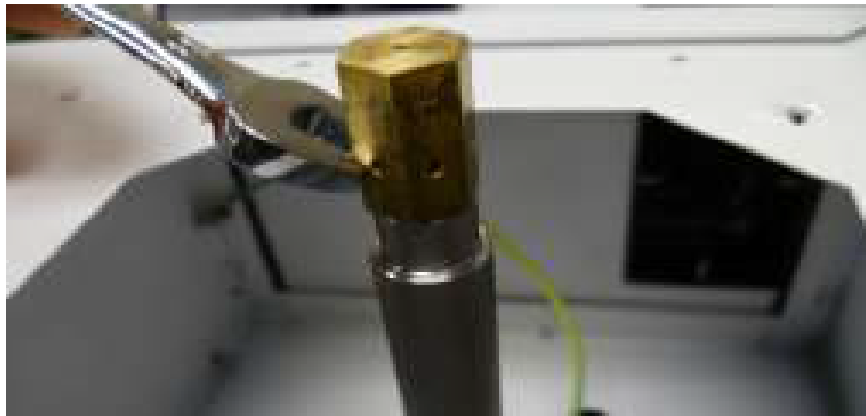

Figure 6. Gas Orifice Replacement for Unit Sizes 060–150
- a. For unit sizes 060–150 (see Figure 6):
- (1) Using wrench, unthread existing gas orifice from jet carrier.
- (2) Using approved pipe joint compound and wrench, thread replacement gas orifice into jet carrier. **DO NOT** overtighten.